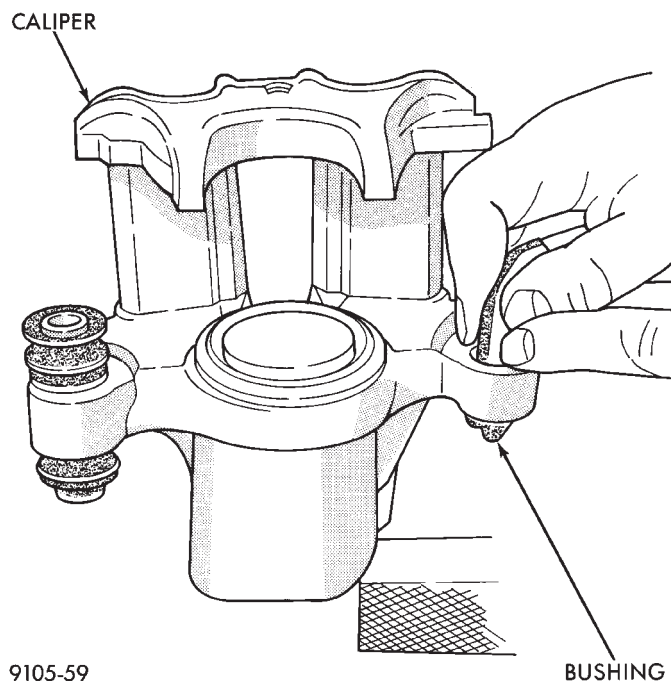

**Fig. 156 Installing Caliper Guide Pin Bushing**
(2) Insert the folded bushing into the caliper housing (Fig. 156). **Do not use a sharp object to perform this step due to possible damage to the bushing.**